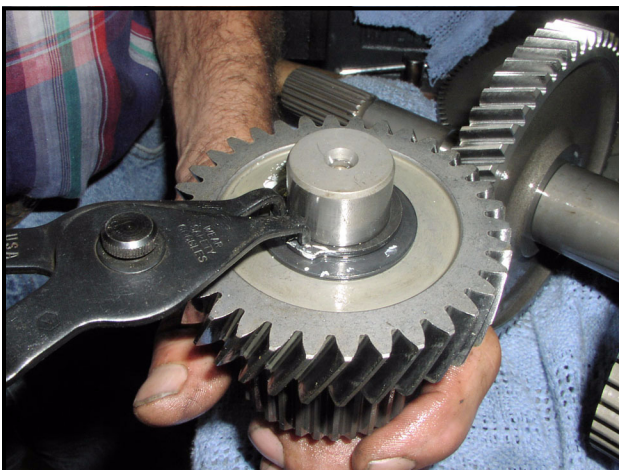

Figure 8-32 Remove Snap Ring and Flat Washer
11. Remove the snap ring and flat washer next to the small helical gear (**Figure 8-32, Page 8-11**).